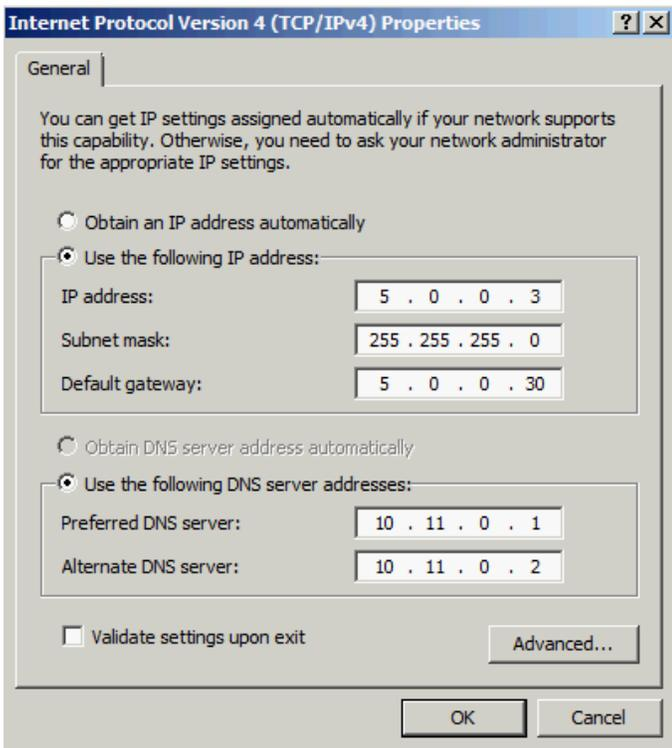

Figure 27 Configuring the NIC team interface with the correct IP information
21. Right click **Team1_VLAN5**, click **Properties**. Select **Internet Protocol Version 4 (TCP/IPv4)** and click the **Properties** button. Enter the respective IP information (Figure 27), and click the **OK** button.